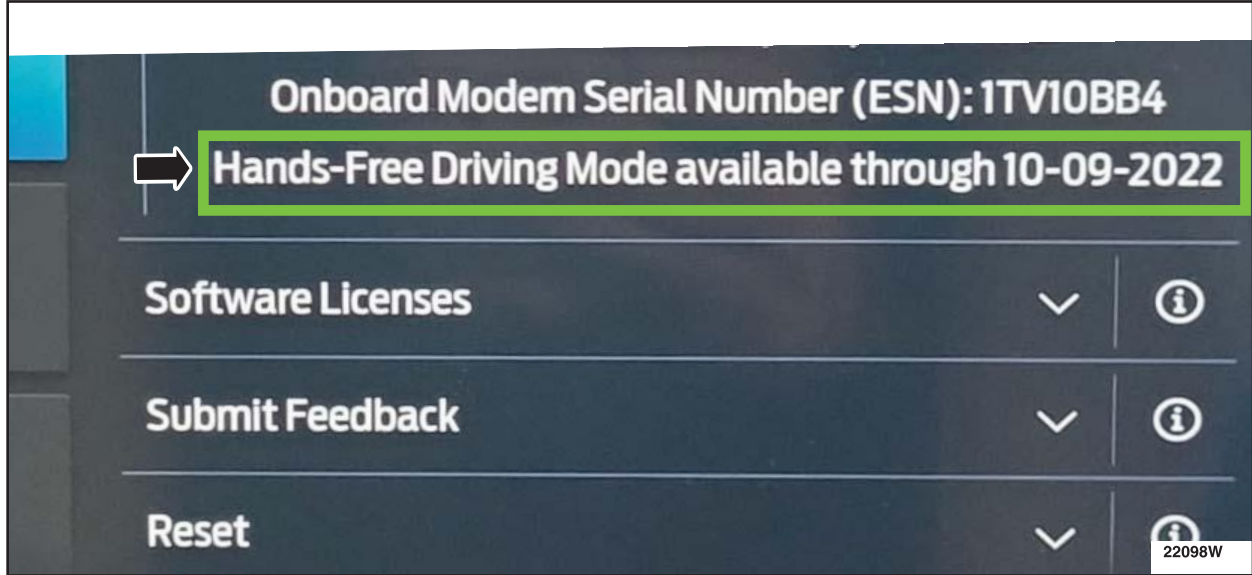

FIGURE 24
32. On the center display screen, navigate to Settings > About SYNC > Hands-Free Driving Mode available through DD-MM-YYYY. Verify that expiration date is in the future. See Figure 24.